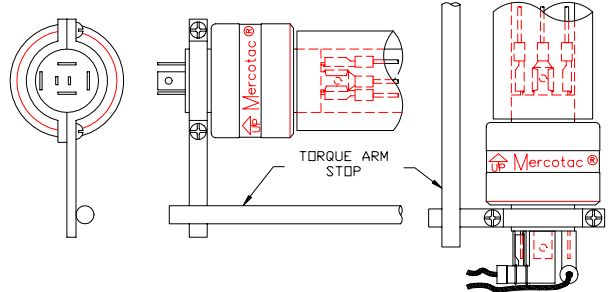

Fig 3 Floating Torque Arm Examples
4. Use stranded wires of ample length and flexibility to avoid mechanical loads. Avoid taut wires that pull on the connector. The wires should have enough free play to allow the connector end to rotate approximately ¼ turn. Wires, which allow too much free play, could wrap around the connector. Generally wires are strong enough to restrain the turning end of the connector. A floating torque arm attached to the stationary bushing may be used if the wires are not adequate. <Fig 3>